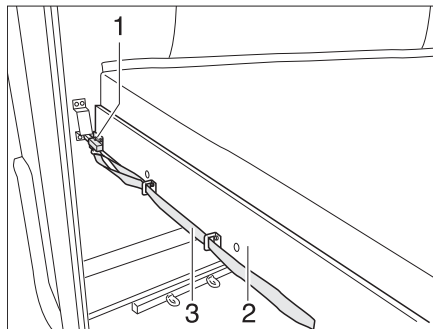

Fig. 156 Bunk bed (rear)
- Pull on the loop (Fig. 156,3) and release the latch (Fig. 156,1).
- Pull the slatted frame (Fig. 156,2) together with the mattress forward until it latches in place.